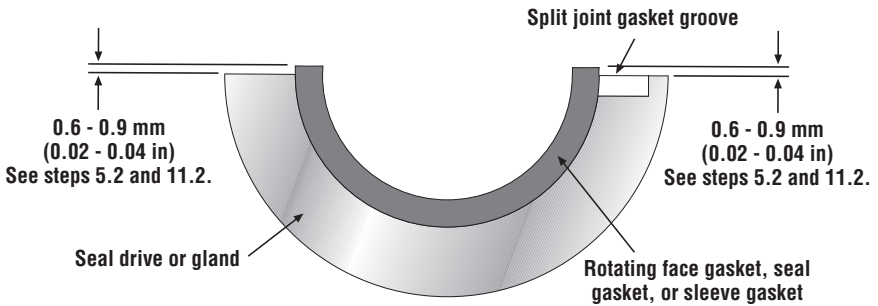

Figure 4
- 2.2 **Gasket Length** - Be sure that the rotating face gasket, stationary face seat gasket, and seal drive sleeve gasket are longer than the surfaces where they end. See Figure 4, steps 5.2 and 11.2. If they are not, reposition them accordingly. Please ensure the rotor gasket ends do not protrude past the rotor face ends.